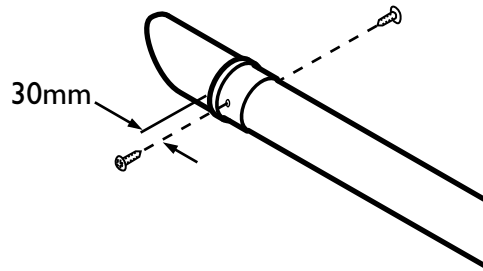

Fig. 36
19. Mark the female end of the extension at 30mm as shown in two positions, directly opposite each other (Fig. 36).